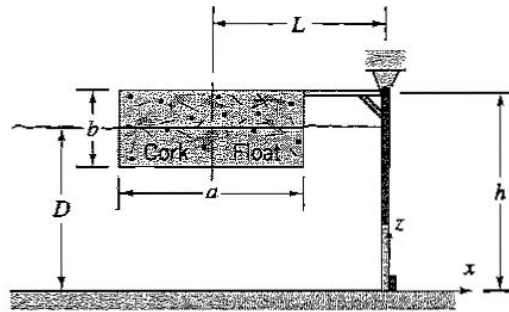

Figure P2.85
2.85 A rectangular cork float is attached rigidly to a vertical gate as shown in Figure P2.85. The gate can swing about a frictionless hinge. Find an expression for the depth of water D where the gate will just open, in terms of a , b , L , and h . The cork float has the same width W as the gate, and the specific gravity of cork is 0.24.